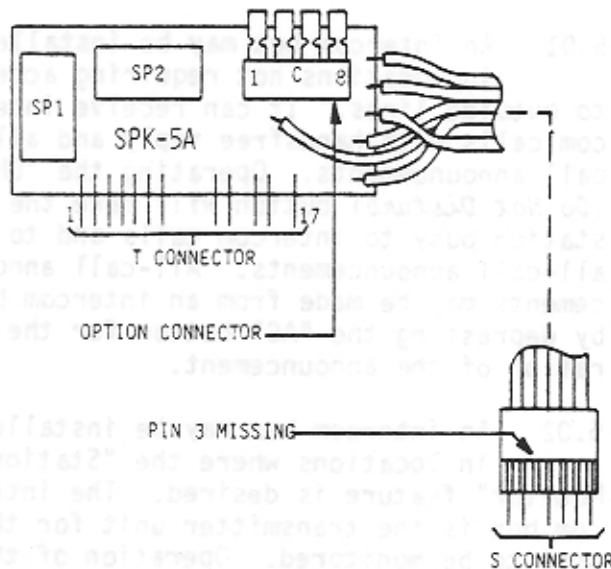

Figure 6 - SPK-5A Abbreviated Card Layout
4.22 The SPK-5A consists of a printed circuit board which plugs into the T connector of the set. A short tail cable is connected to the SPK-5A which plugs into the "S" connector of the set. Mounted on the SPK-5A board is an option connector. This connector is used to implement dial strapping depending upon which type of dial is used. Refer to table 1 and figure 6.
- b) Strap the option connector on the SPK-5A in accordance with table 1. Figure 6 shows the SPK-5A and the option connector.